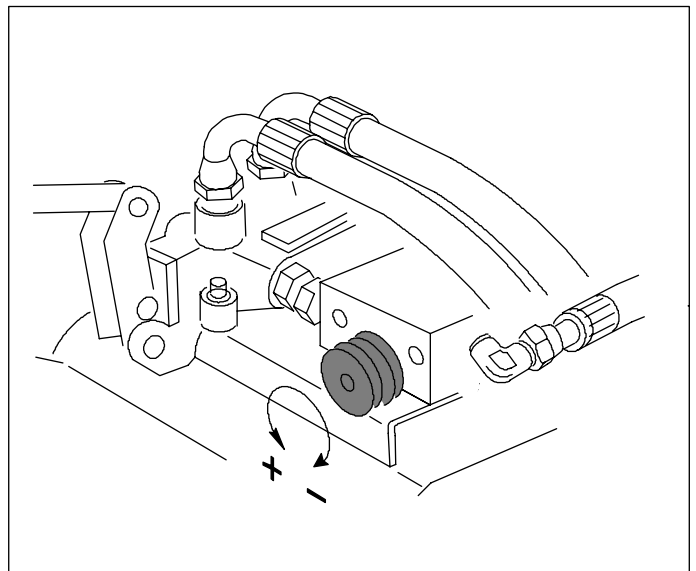

Fig 4d. Feeder reel speed settings
- Using the flow control valve, set the revolution speed of the feeder reel to correspond with the cutting speed of the blades. By turning the knob anticlockwise, the revolution speed of the feeder reel grows, correspondingly by turning it clockwise, the revolution speed will diminish. See fig 4d.